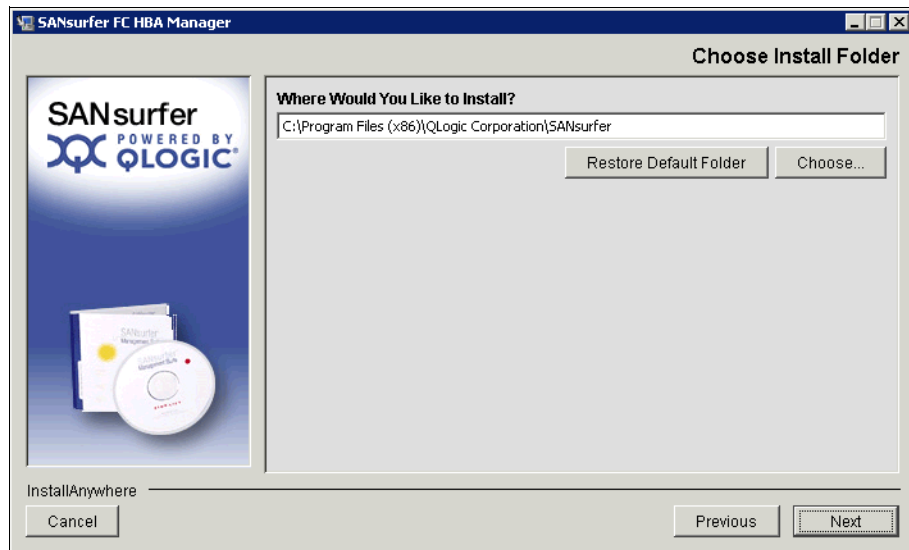

Figure 17-5 Choose Install Folder window
4. The following window asks for the path where the files will be installed; by default, the installation path is the one shown in Figure 17-5. Click **Next** to proceed.